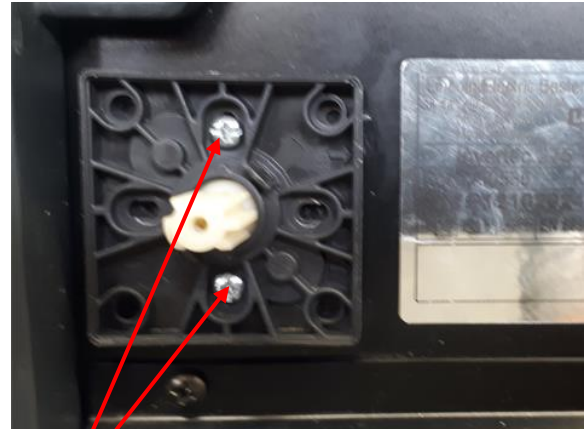

Figure 38
6. Using the PH02 screwdriver remove the 2 screws (**C**) and remove the black plastic plate. See **Figure 38**.